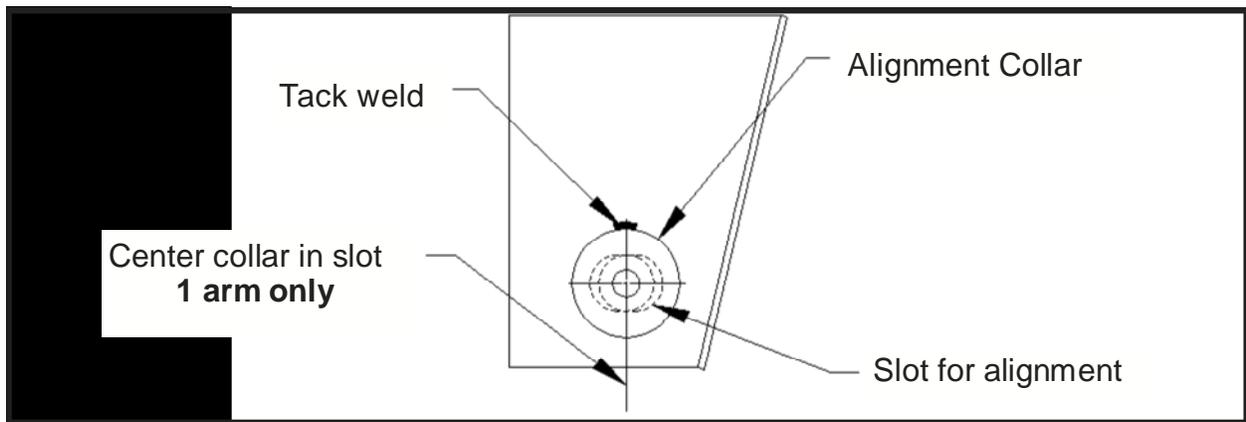

Figure 21
3. Move one of the suspension arms to the middle of the adjustment slot and tack weld where shown in **Figure 21**.